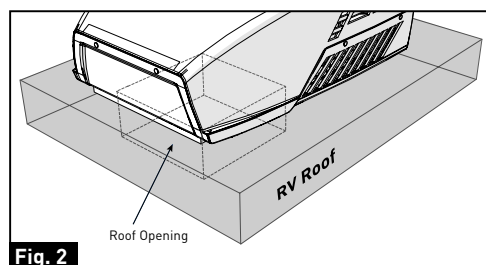

Fig. 2
1. Check the gasket alignment of the rooftop unit inside the RV over the roof opening and adjust as necessary by lifting and moving slightly. (Fig. 2)